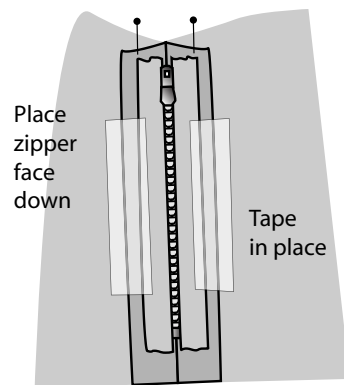

Figure 13
4. Working from the underside, position the zipper face down on the seam line with the zipper tape edges along the markings. (Figure 13)